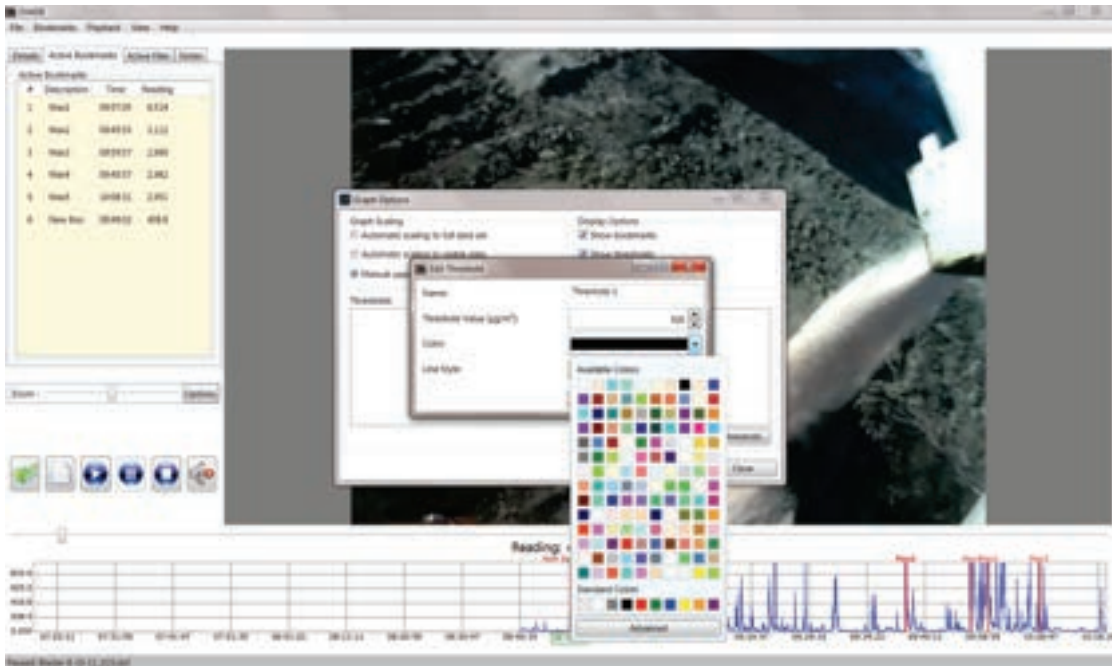

Figure 44. The Edit Threshold dialog box showing the drop-down color selection box.
4. In the Color box, select the down arrow or just select the Color box to open the drop-down color selection dialog box, showing Available Colors and Standard Colors. Select a color for the threshold line (Figure 44).